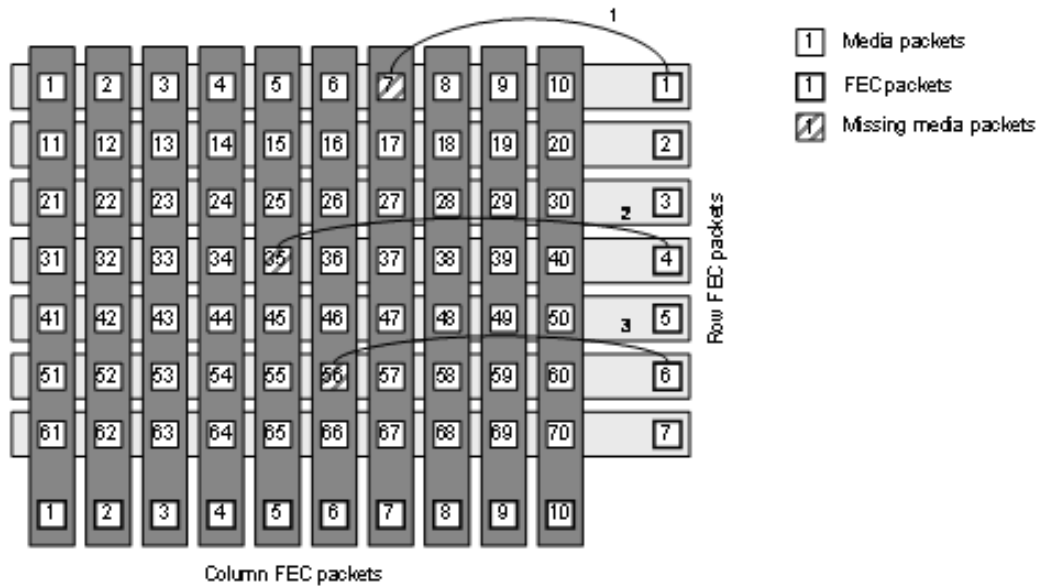

Figure 6.2 Illustration of two-dimensional FEC, where packet 7, 35 and 56 are lost and corrected.
The generation of FEC packets is based on the use of a matrix. The matrix size is defined by the number of columns (L) and the number of rows (D). The FEC packets are calculated as an XOR operation over the packets in a column and the packets in a row. Figure 6.2 shows an example of the FEC scheme. In this illustration three missing (corrupt) packets are corrected.